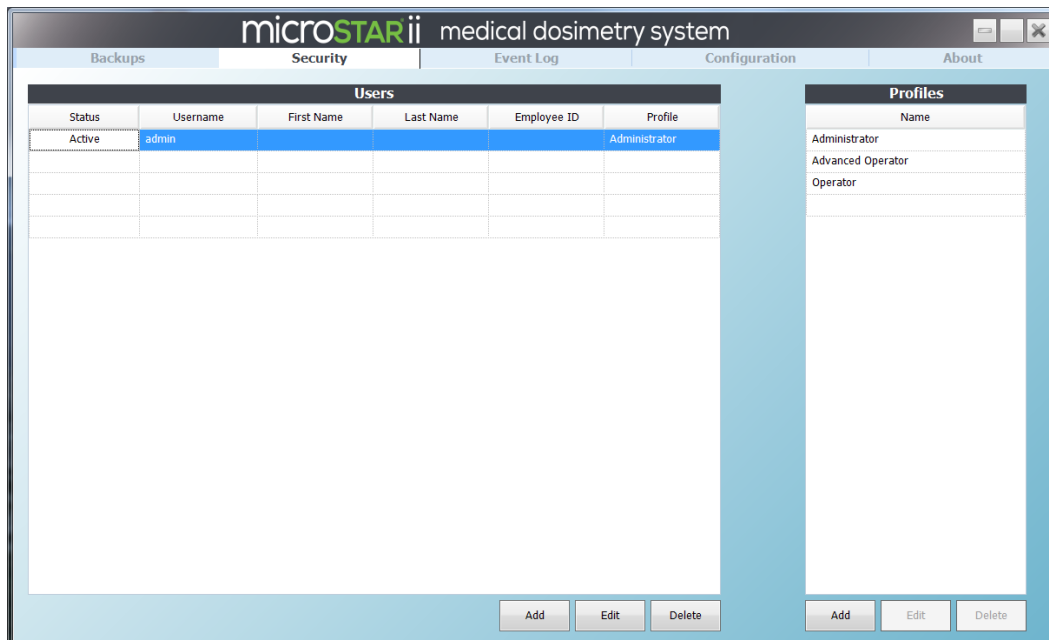

Figure 5-2: Security Tab
Accounts and profiles are managed on the *Security* tab (Figure 5-2).
STEP 1: On the *Security* tab (Figure 5-2), click the Add button under the Users table.